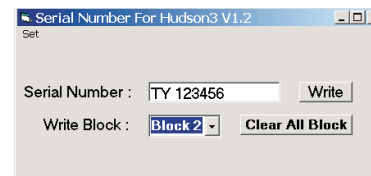

Fig.29
- Set Block2 as shown in Fig.29
- key in new serial number, then press "Write" button as shown in Fig.29, Click "WRITE" button.